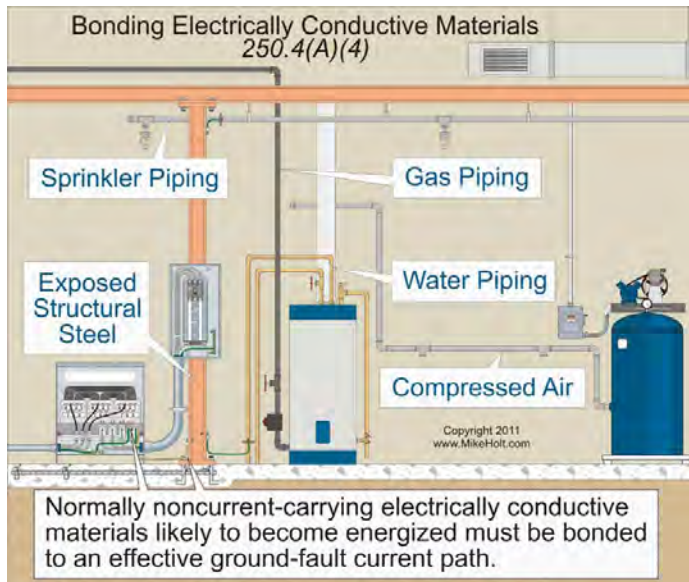

Figure 250–16
(4) Bonding Conductive Materials. Electrically conductive materials such as metal water piping systems, metal sprinkler piping, metal gas piping, and other metal-piping systems, as well as exposed structural steel members likely to become energized, must be connected to the supply source via an equipment grounding conductor of a type recognized in 250.118. **Figure 250–16**